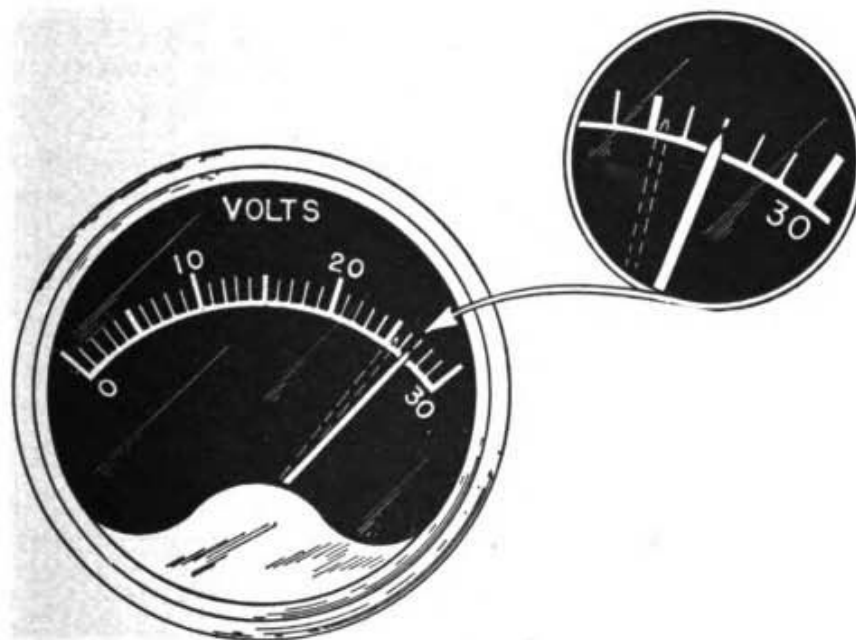

Figure 41. Indications of voltmeter when checking reverse-current cut-out.
(1) With the main-line switch in its OFF position and the engine speed approximately 1,500 rpm, the voltmeter should indicate 14.25 volts in a 12-volt system and 28.5 volts in a 24-volt system. The voltmeter pointer should not oscillate excessively. Low voltmeter indications and discharge or no charge shown on the ammeter signify malfunction of the generator or control system. Excessive generator voltage will seriously damage auxiliary electrical equipment, especially radio equipment; therefore, it is essential that the voltage regulator be adjusted to give the specified voltage on the voltmeter.
(2) Placing the main line switch in the ON position, the mechanic determines the voltage at which the current cut-out relay completes the circuit between the battery and the generator by slowly opening and closing the throttle and observing the voltmeter. The current cut-out points should close at 13.5 volts in a 12-volt system and at 27 volts in the 24-volt system. Closing of the points will be indicated by a slight drop-back of the voltmeter pointer. (See fig. 41.)